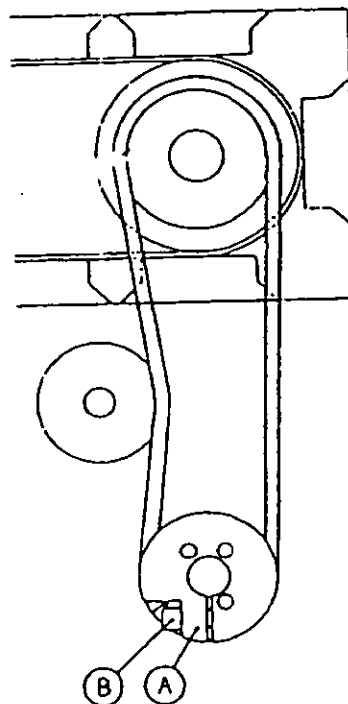

Fig. 11
By means of a flange of hub, Fig. 11 Pos. A, in the pinion for the pocket conveyor, it is possible to synchronize the pocket conveyor and the inlet conveyor.
- Loosen the screw, Fig. 11, Pos. B. Now the connection between the wrapping machine and the pocket conveyor is disconnected.
- Tighten the lock screw, Fig. 11, Pos. B. and the connection between the wrapping machine and pocket conveyor is re-established.